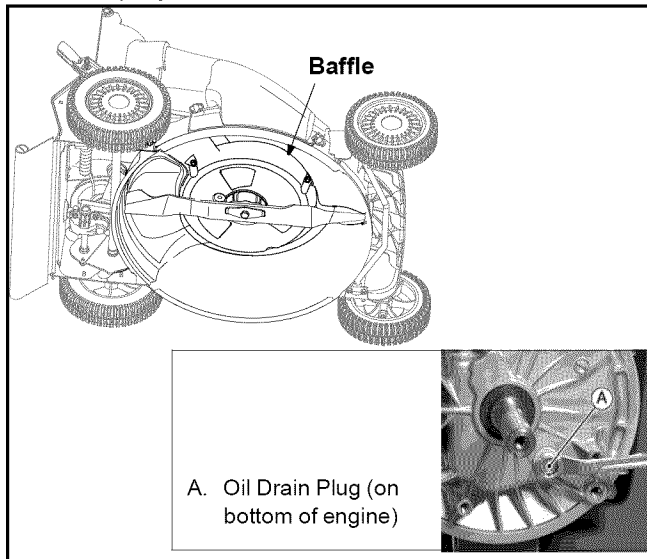

Figure 12
- Run the engine for a few minutes and stop the engine. Tip the mower as shown in Figure 12.
- Access the oil drain plug by removing the baffle and other components following instructions in “Changing Belts” section on page 13. See Figure 12 for location of the baffle.
- Remove the oil drain plug from bottom of the engine. See Figure 12 inset for location of the oil drain plug. Drain oil into suitable container.